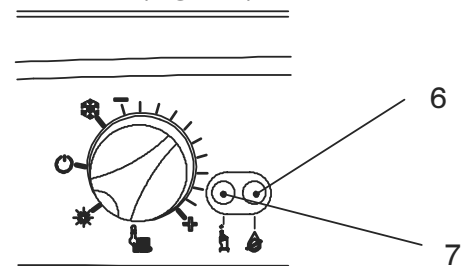

Fig. 3.2
**If the lock-out signal lamp (6 in Fig. 3.2) comes on**
To re-start the boiler, it is necessary to press the boiler reset button 7 (Fig. 3.2).